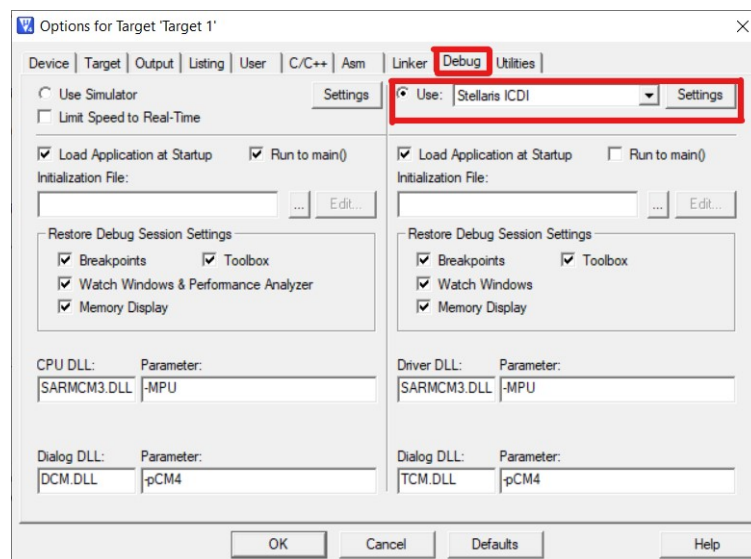

Figure 1.19: Change Simulation option to Use Stellaris ICDI
4. In *Debug* tab, choose *Use* instead of Simulator and change the drivers to **Stellaris ICDI** (Figure 1.19).